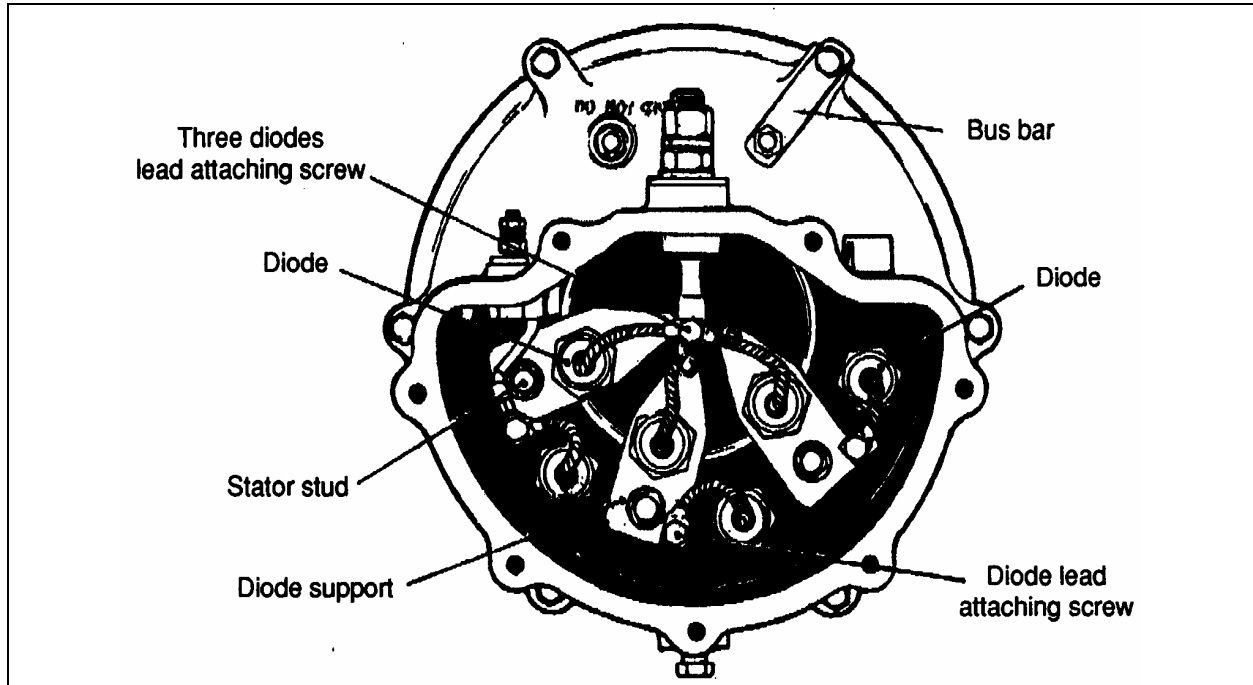

FIGURE 22: VIEW OF RECTIFIER END FRAME WITH COVER REMOVED
5. Disconnect all diode flexible leads; i.e. three from the output terminal stud and three from the diode supports. See Figure 22 for more details.